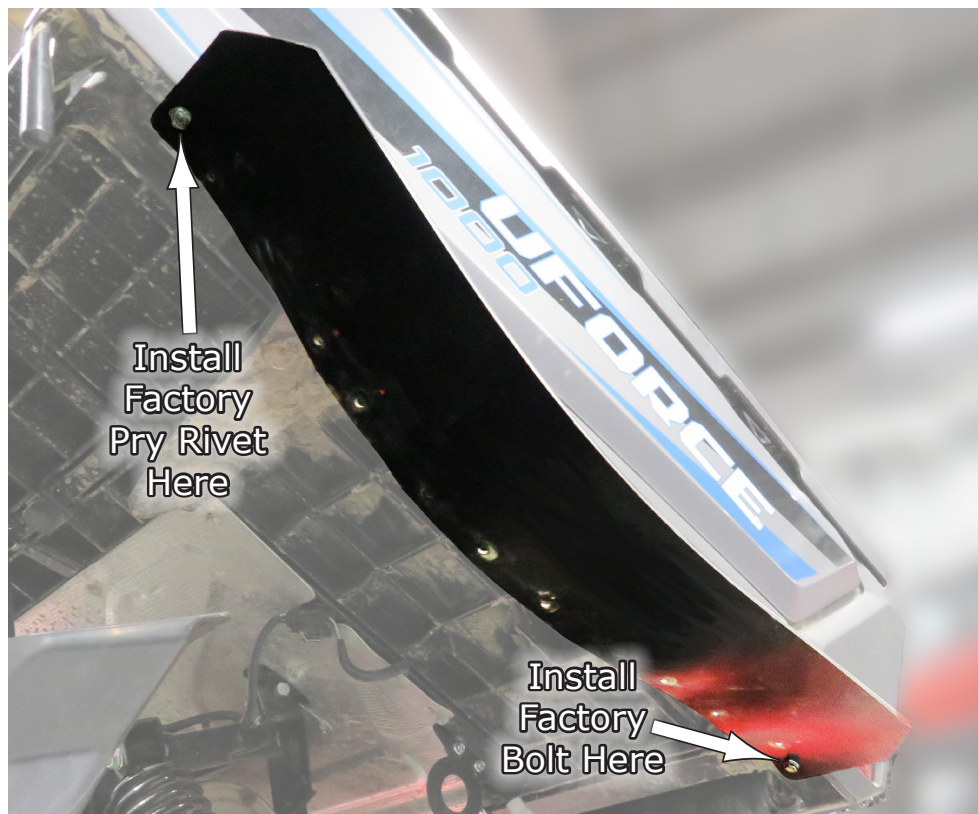

Fig.5
5.Now you can start you install the long fender flare piece. Install this piece FIRST as you will need it to align the other half so they look good with matching edges. To get the best fit, install ONLY the front Pry Rivet you just removed and the rear bolt you also just removed. Install this flare piece with those two items to start. See **Fig.5**.